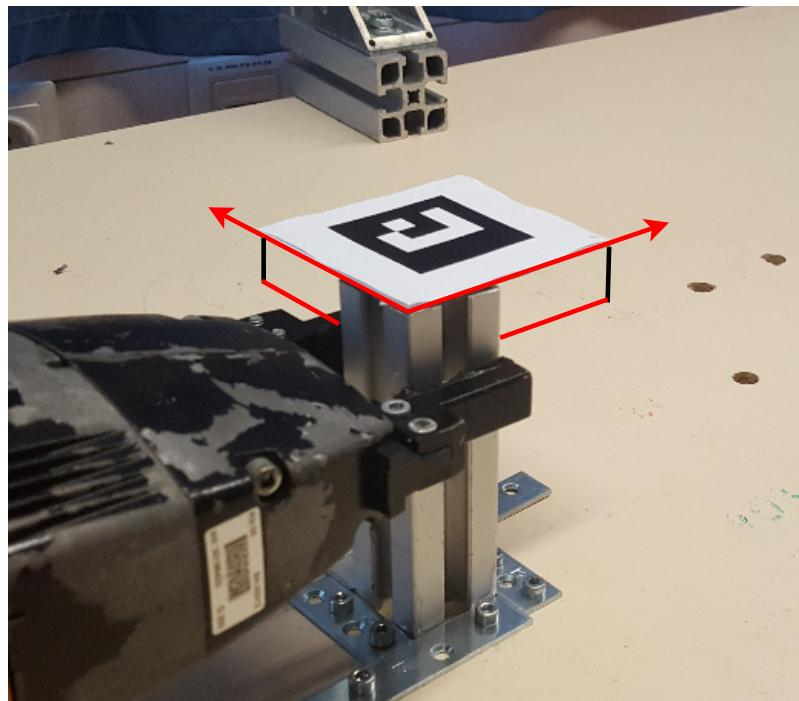

Figure 6: Correct orientation of an object used by youBot arm 1
- Additionally, you must ensure that the object is placed in the container with a constant orientation. i.e. the marker attached to the object must always have the **same orientation** (in order for the ground-truth orientation measurements to make any sense). The correct orientations for the objects used by arms 1 and 3 are shown in figures 6 and 7 respectively.